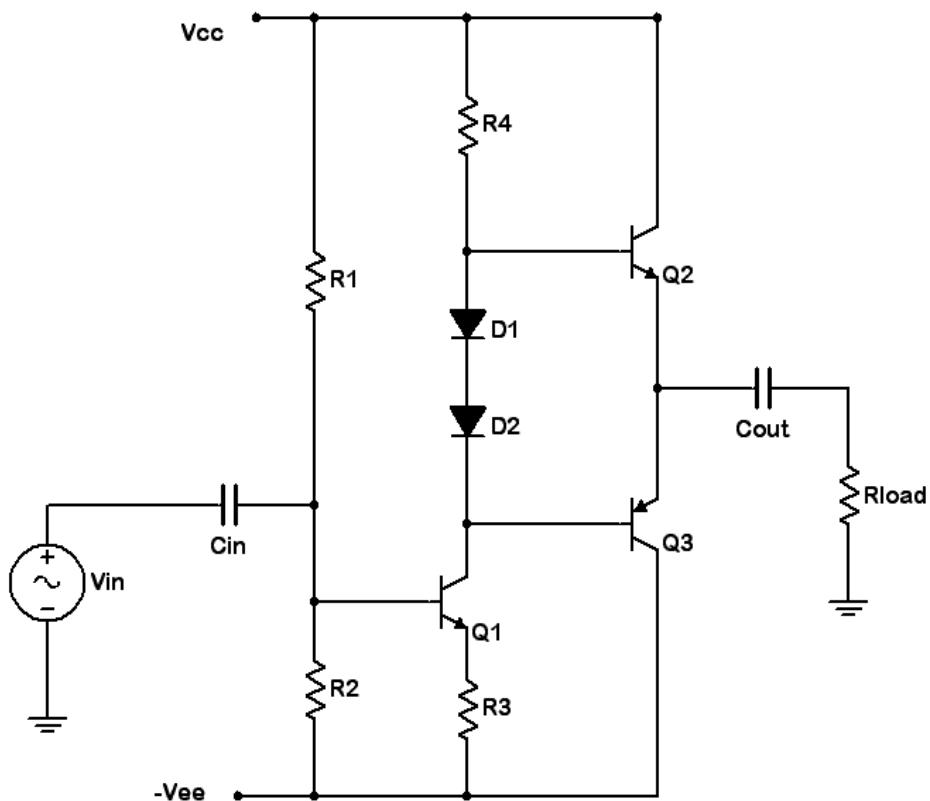

Figure 1
1. Consider the circuit of Figure 1 using $V_{cc} = 6$ volts, $V_{ee} = -6$ volts, $R_1 = 6.8 \text{ k}\Omega$, $R_4 = 1 \text{ k}\Omega$, $R_3 = 100 \Omega$, $R_{load} = 100 \Omega$, $C_{in} = 1 \mu\text{F}$ and $C_{out} = 100 \mu\text{F}$. R_2 is an adjustable resistance (pot or decade box). For proper bias, the emitters of the output transistors should be at 0 volts DC. For this to be true there must be a voltage of $V_{cc} - V_{be}$, or approximately 5.3 volts, across R_4 . Ignoring base currents, this establishes the I_{CQ} of transistor 1 which in turn creates a potential drop across R_3 . From this the voltage across R_2 may be determined. Knowing the value of R_1 and the total supply presented, Ohm's law or the voltage divider rule may be used to compute the required setting for R_2 . Compute the required value for R_2 and record it in Table 1.
4. Build the circuit of Figure 1 using $V_{CC} = 6$ volts, $V_{EE} = -6$ volts, $R_1 = 6.8 \text{ k}\Omega$, $R_4 = 1 \text{ k}\Omega$, $R_3 = 100\Omega$, $R_{load} = 100 \Omega$, $C_{in} = 1 \mu\text{F}$ and $C_{out} = 100 \mu\text{F}$. Set the pot or decade box (R_2) to the value calculated in Table 1. Disconnect the signal source and inspect the DC voltage at the load. Adjust R_2 until this voltage goes to 0 volts. Record the resulting value of R_2 in Table 1.